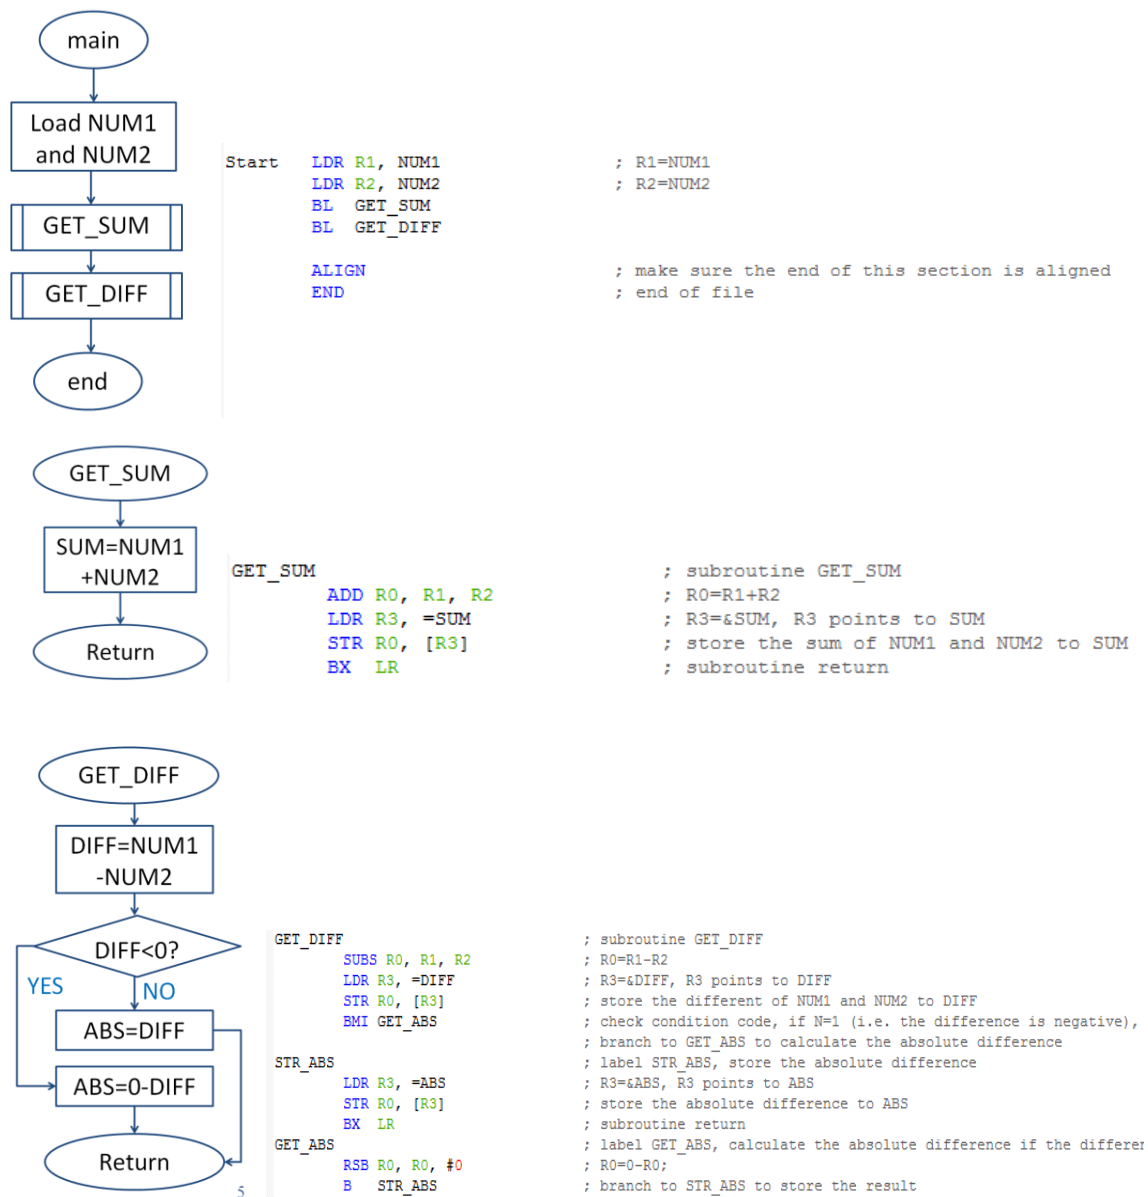

Figure 5
5. Understand the sample project *sim*. The sample project *sim* implements an assembly program that calculates the sum, difference, and absolute difference of two constant 32-bit signed numbers NUM1 and NUM2 and then stores the results in three defined variables SUM, DIFF, and ABS allocated in the RAM. Figure 5 shows the flowchart of the program. The program consists of a main routine and two subroutines GET_SUM and GET_DIFF. GET_SUM calculates the sum of NUM1 and NUM2 and stores the result into the variable SUM. GET_DIFF calculates the difference of NUM1 and NUM2 and stores the result into the variable DIFF. If DIFF is less than 0, the program calculates the absolute difference of NUM1 and NUM2 by calculating 0-DIFF, otherwise the absolute difference is equal to DIFF. The absolute difference is then stored in the variable ABS. If you are querying the usage of any instruction, you can search for the instruction (ctrl+F) in the *Cortex-M3/M4F Instruction Set Technical User's Manual* or the *Thumb-2 Instruction Set Quick Reference Card* (both can be downloaded from iLearn->Reference Materials).